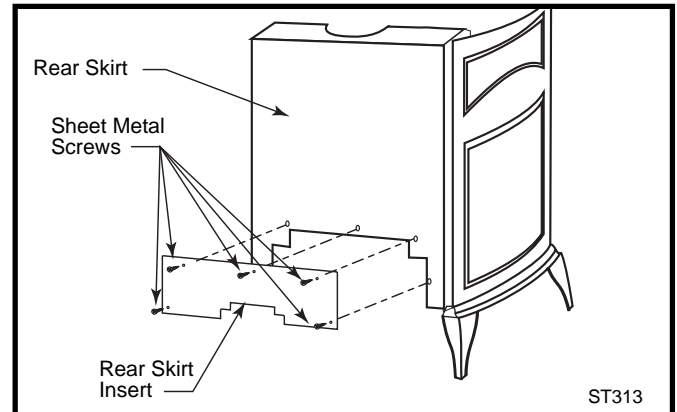
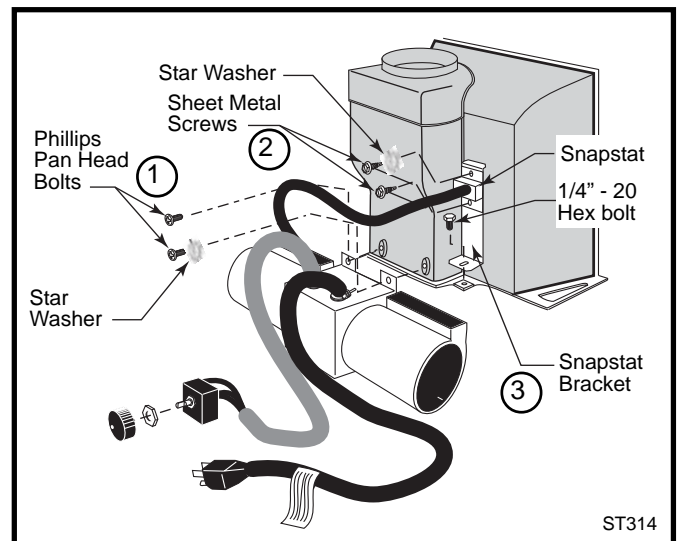
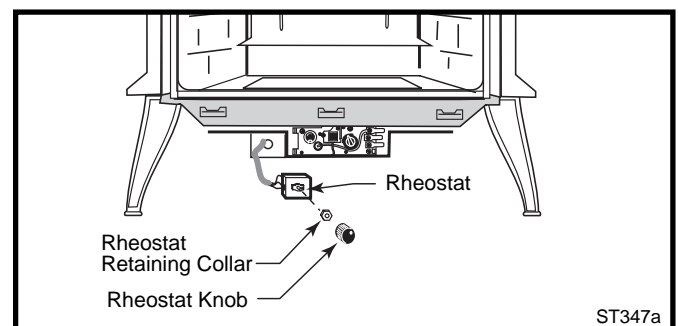

Fig. 19 Remove rear skirt insert.
Fig. 20 Attach the fan assembly and the snapstat.
Fig. 21 Attach the fan rheostat.
2. Remove the rear skirt insert panel at the bottom of the Rear Skirt (Fig. 19) and fasten the blower assembly to the firebox back with the two Phillips pan-head bolts originally installed in the firebox back. ('1', Fig. 20)
3. Attach the snapstat assembly to the snapstat bracket with two sheet-metal screws. ('2', Fig. 21) Attach the snapstat bracket to the stove with a hex-head bolt passing through the bracket and into the stove base. ('3', Fig. 20)